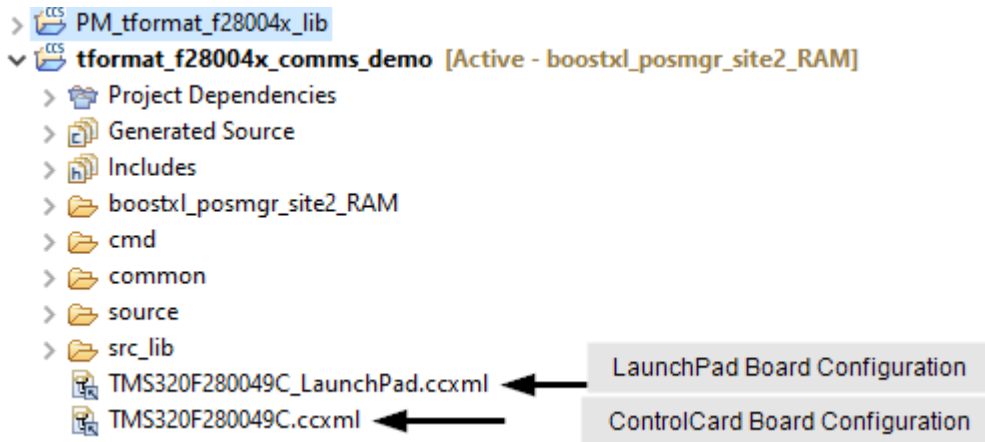

Fig. 3.2: Board Configurations
1. Some projects include two board configuration files (.ccxml) as shown in Fig. 3.2. This occurs when the LaunchPad and ControlCard use different JTAG connections.